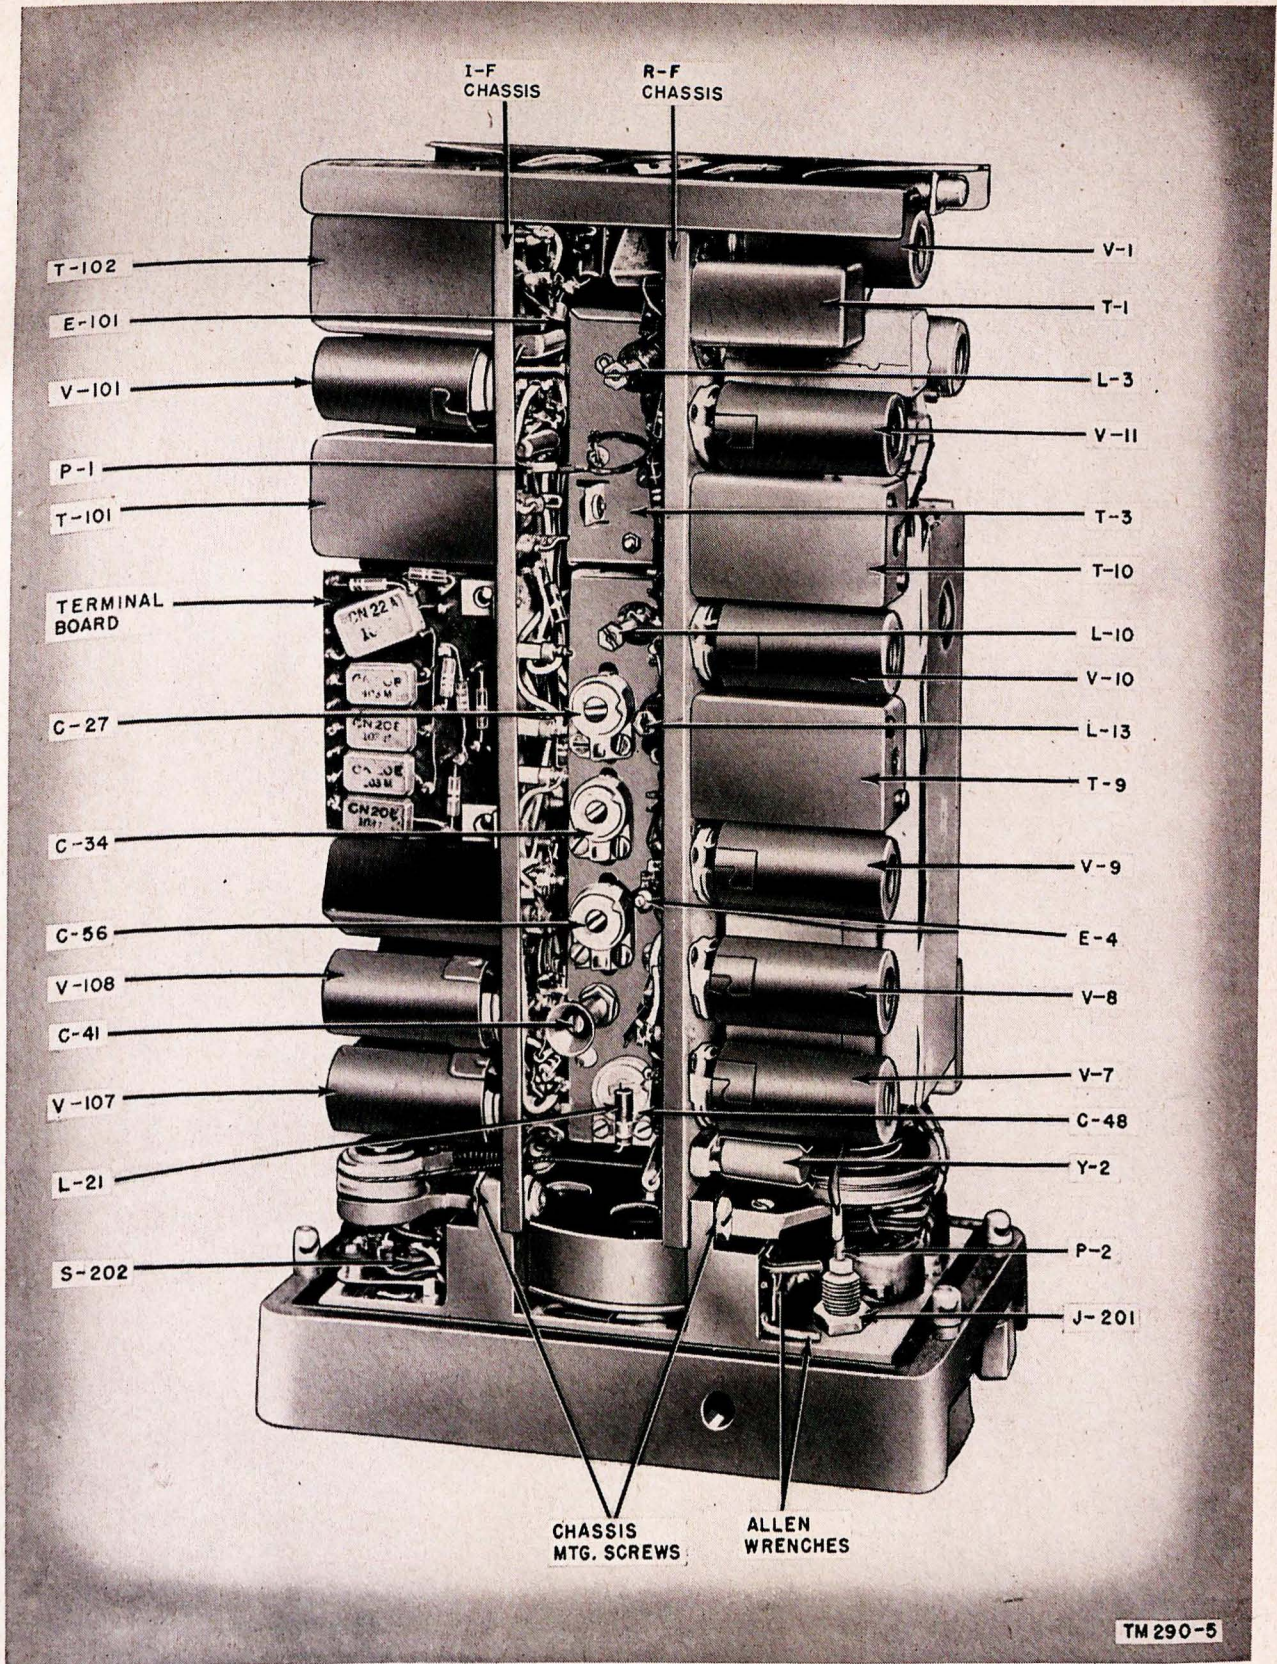

Figure 43. Receiver-Transmitter RT-70/GRC, top view of panel-chassis assembly.
The dial lamp and the tubes are the only replaceable parts in the receiver-transmitter. The tubes are located on the vertical r-f and i-f chassis (fig. 43).
b. Unpack the bags, remove the receiver-transmitter from the case, and set the FIELD-VEH-TANK switch (fig. 43) in the FIELD position. Replace the unit in its case.